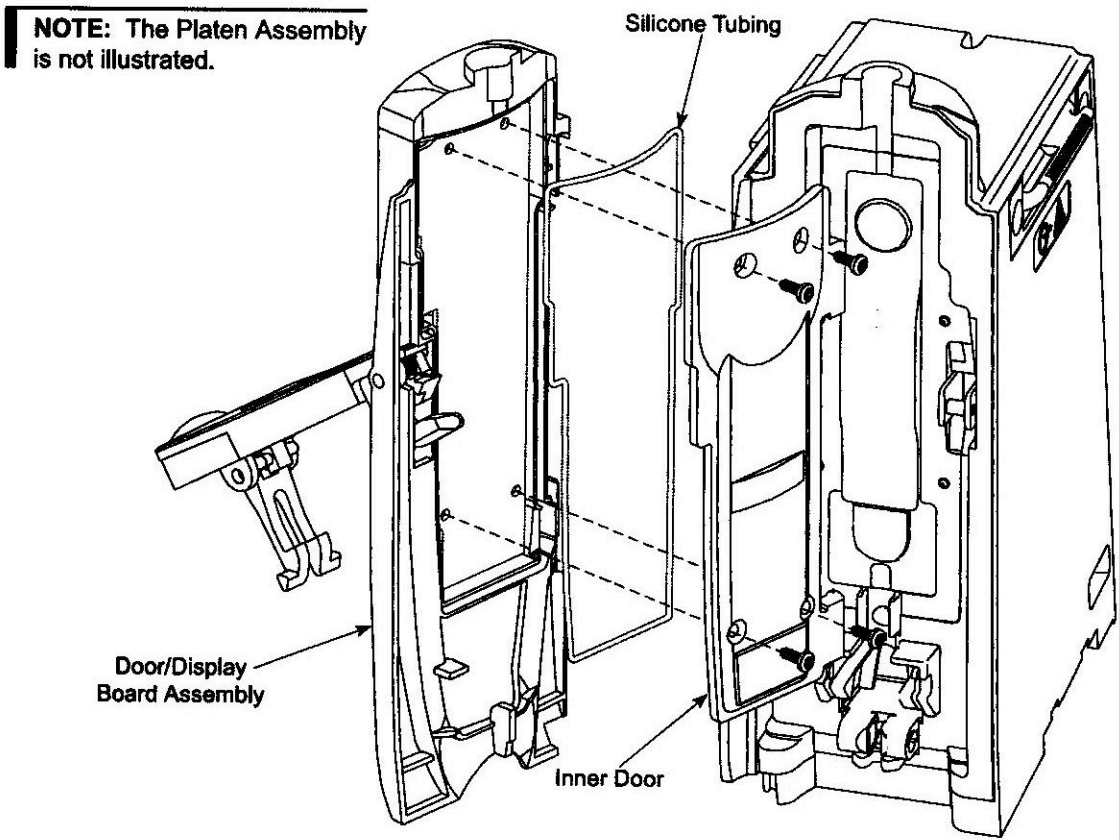

Figure 1
1. Remove screws (4) from the Inner Door and remove Inner Door from Door/ Display Board Assembly. (See Figure 1 below).
3. Install new gasket tubing material into the new Elite Biomedical Solutions Door provided in the kit. Ensure new gasket tubing is in place and cut off excess gasket material. (See Figure 1)
6. Install the Inner Door by snapping it into place from top to bottom using the 4 screws and tighten to the torque value of 6 in-lbs as specified in the Alaris[®] Technical Service Manual, Table 5-3. (See Figure 1). CAUTION: Ensure Inner Door is in completely.